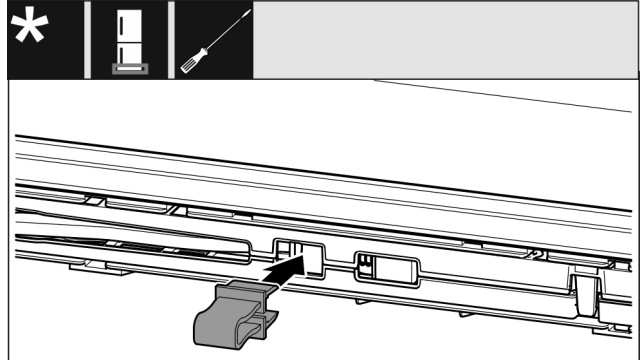

Fig. 14
- Borging in opening vergrendelen. Fig. 14 ()